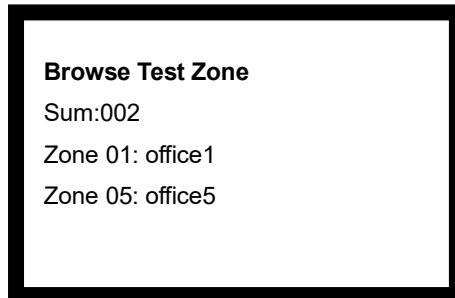

Fig. 6-7
- 2 (Group) (012)(020) // 2 groups are defined. There are 12 addressable devices on Loop 1, and 20 on Loop 2.
- ❖ Entering number 4 to choose “4. In Test Mode Zones” will enter the screen for browsing zones in test mode, as shown in Fig. 6-7.
In Fig. 6-7: